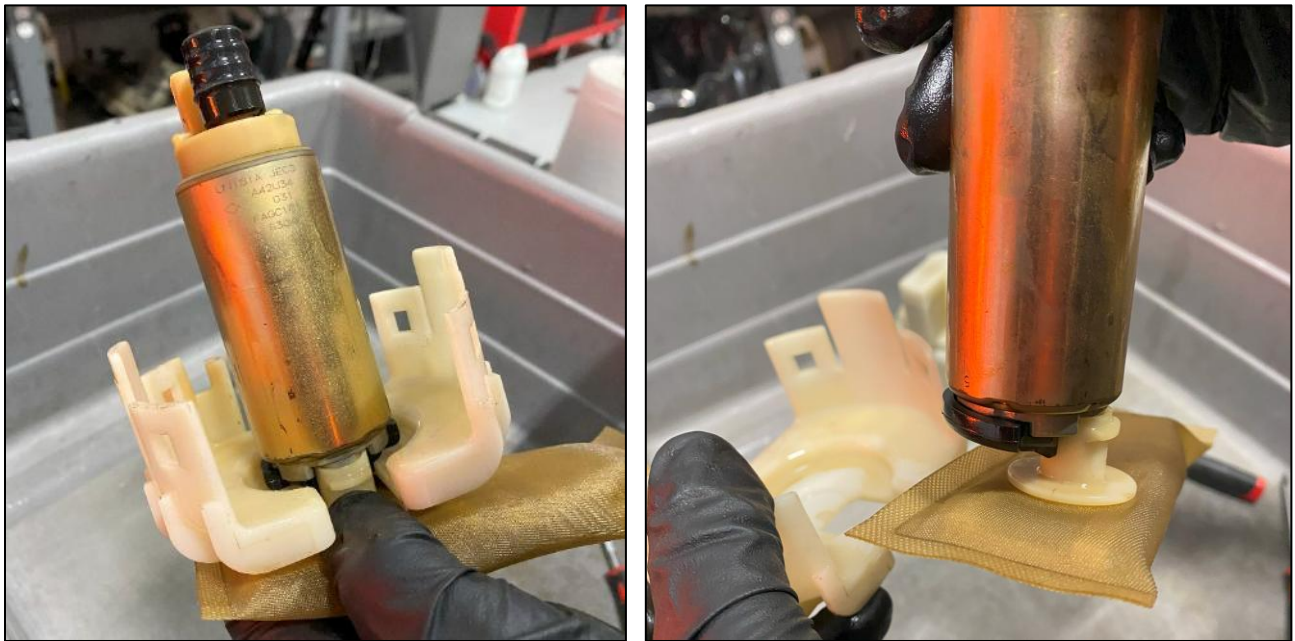

Figure 12
4. Slide the Fuel Pump and Strainer out of the Lower Basket Piece. *Figure 12.*